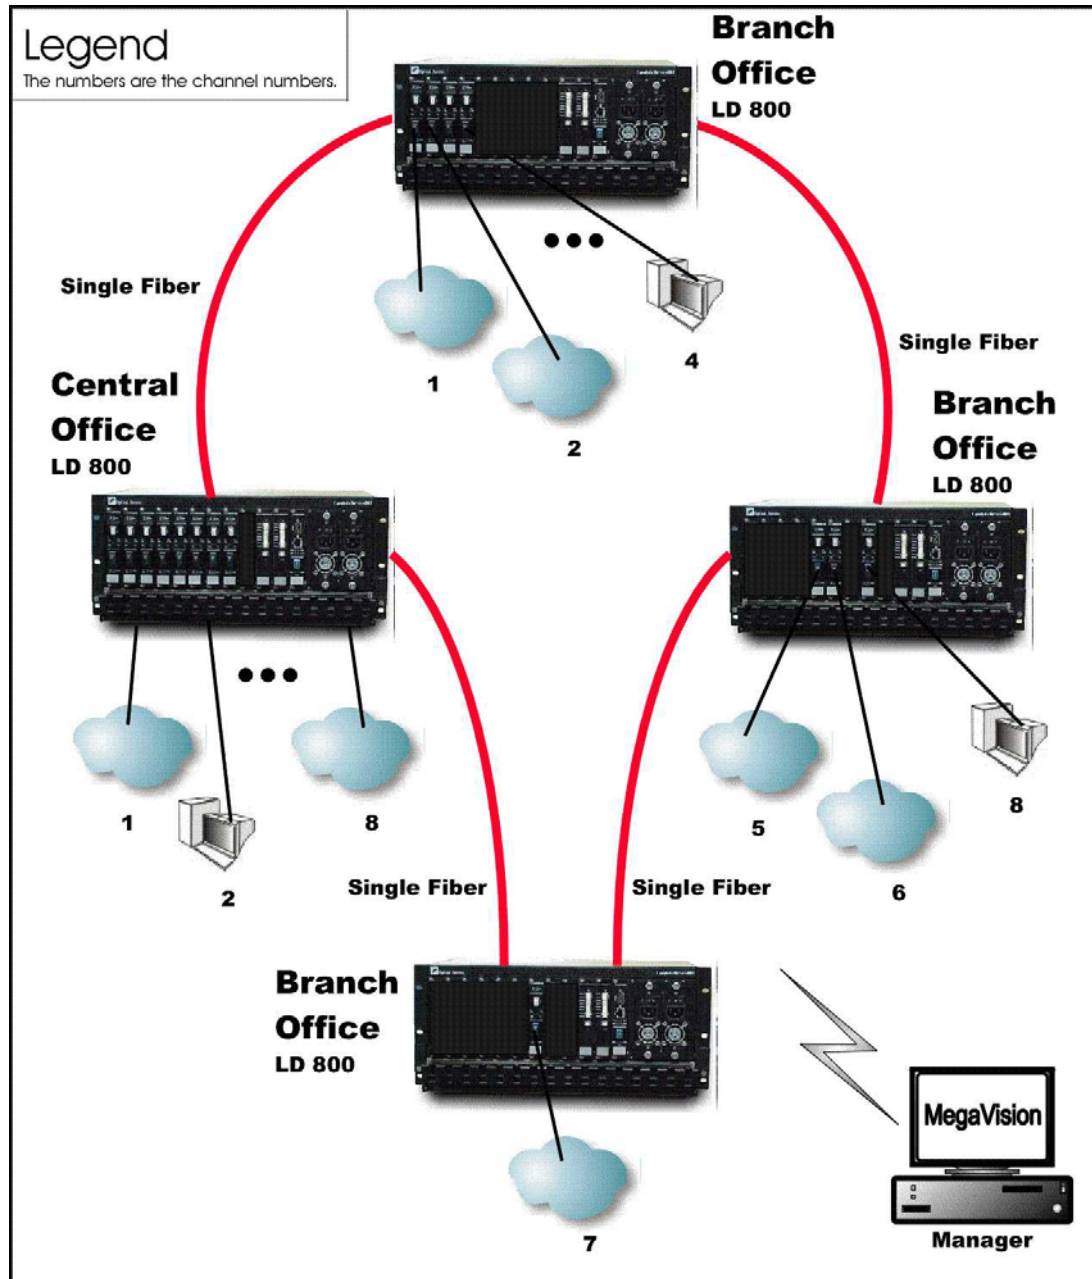

Figure 28: Central Office Ring with up to 8 Full-Duplex Channels
In Central Office Ring topology (example shown in *Figure 28*), up to 8 channels can be created across the network. This means that up to 16 access-equipment units (e.g., LANs, PCs, etc.) can be interconnected with this network topology – two per channel. Note that all channels run from the Branch Office (BO) LDx00s to the Central Office (CO) LDx00, i.e., no channels exist between the BOs.